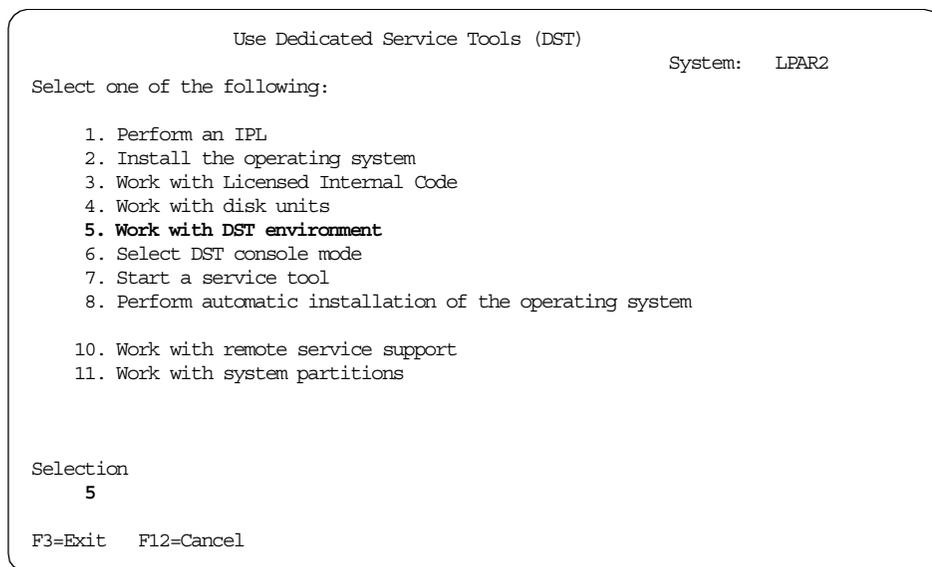

Figure 93. DST Main Menu
b. Select option **5** (Work with DST environment). See Figure 93.